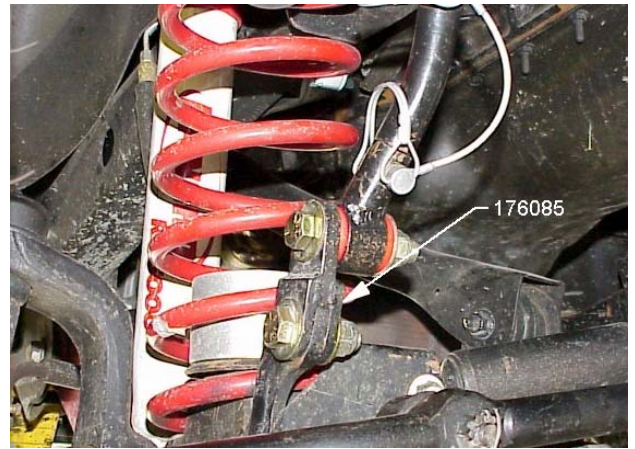

Figure 11
- 7) ☐ Grind the passenger side axle bracket even with end link bracket 176085. See figure 11.